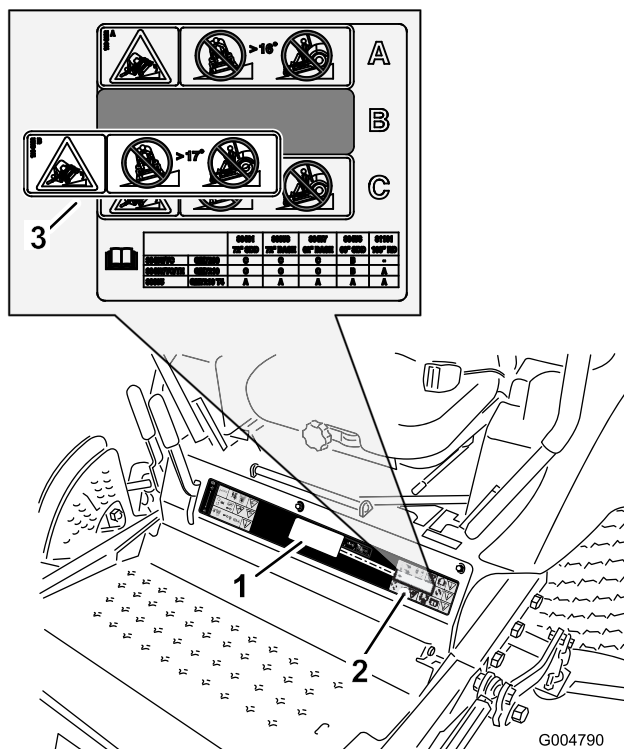

Figure 11
2. Thoroughly clean the existing decal where you will install the stability decal (Figure 11).
4. Peel off the backing of the decal portion, apply it over the existing tipping-hazard warning as shown in Figure 11, and squeegee across the decal using overlapping strokes from the center toward the edges.